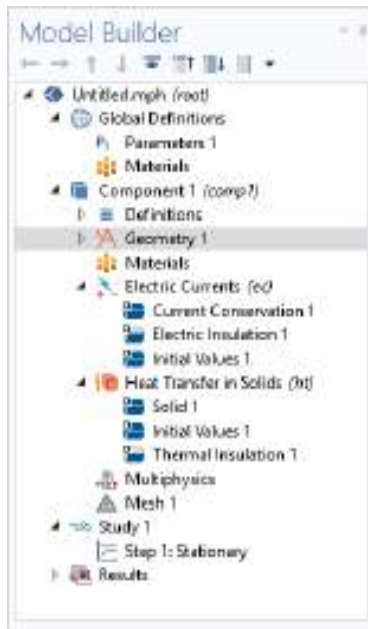

Figure 3-1: An example of the Model Builder default nodes for the Electric Currents and Heat Transfer in Solids interfaces.
- **Physics interfaces** (): Any added physics interface displays as a node under **Component** (**Solid Mechanics** in Figure 3-1 for example).